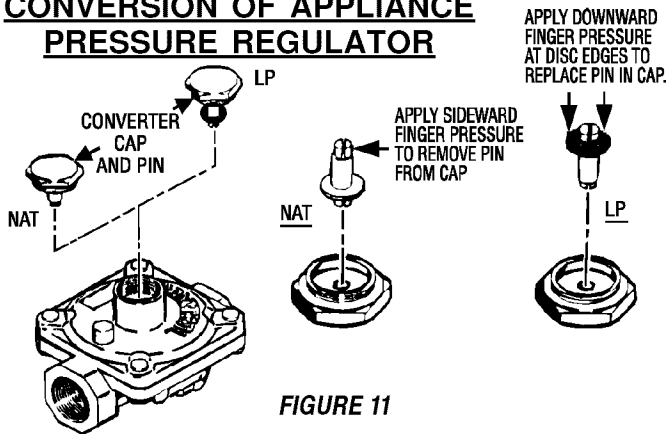

FIGURE 11
B. INVERT CAP IN APPLIANCE PRESSURE REGULATOR (See figure 11)
REGULATOR (See figure 11)
B. INVERT CAP IN APPLIANCE PRESSURE REGULATOR. (See figure 11).